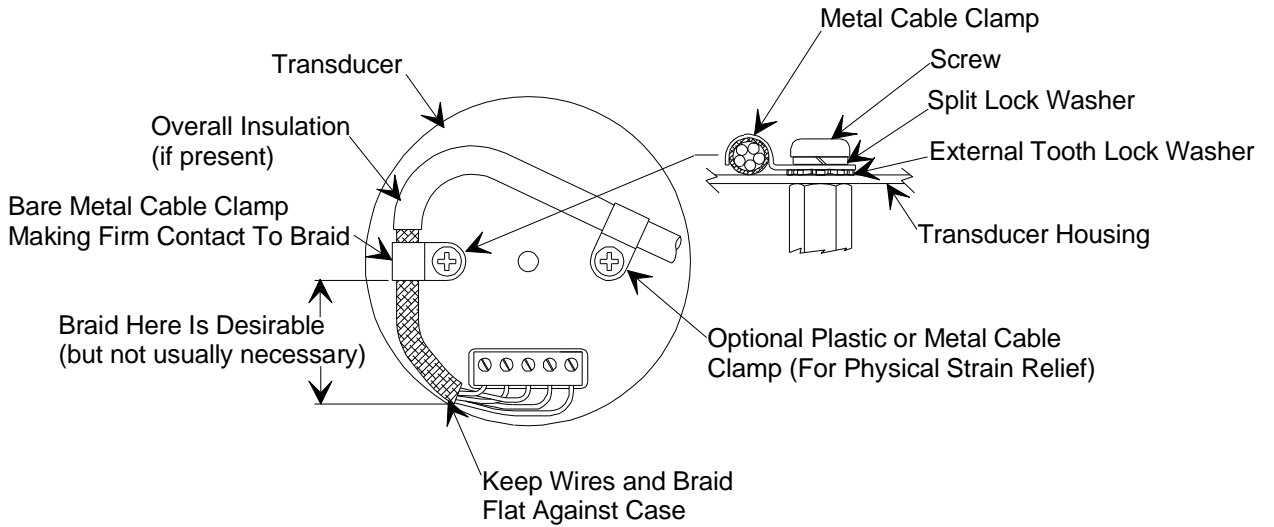

Figure 1: Preferred Method
4. For shielded cables with flying leads at one or both ends; it is important at each such end, to ground the shield *before* the wires exit. Make this ground with absolute minimum length. Refer to Figures 1 and 2, page 25. (A ¼ inch piece of #22 wire may be undesirably long since it has approximately 5 nH of inductance, equivalent to 31 ohms at 1000 MHz). After picking up the braid's ground, keep wires and braid flat against the case. With very few exceptions, grounded metal covers are not required over terminal strips. If one is required, it will be stated in the Declaration of Conformity or in the instruction manual.